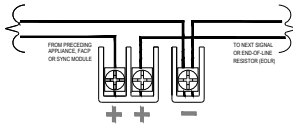

Figure 2: Horn/Strobe NAC Wiring.
- Break all in-out wire runs on supervised circuits to ensure integrity of circuit supervision as shown in Figure 3. The polarity shown in Figure 2, the wiring diagram, is for the operation of the appliances. The polarity is reversed by the FACP during supervision.
3. **Pre-Wire:** Connect field wires to terminals on mounting plate (Reference Figure 2 and 3). Use care and proper techniques to position the field wires in the backbox so that they use minimum space and produce minimum stress on the product. This is especially important for stiff, heavy gauge wires and wires with thick insulation or sheathing. When terminating field wires, do not use more lead length than required. Excess lead length could result in insufficient wiring space for the signaling appliance.